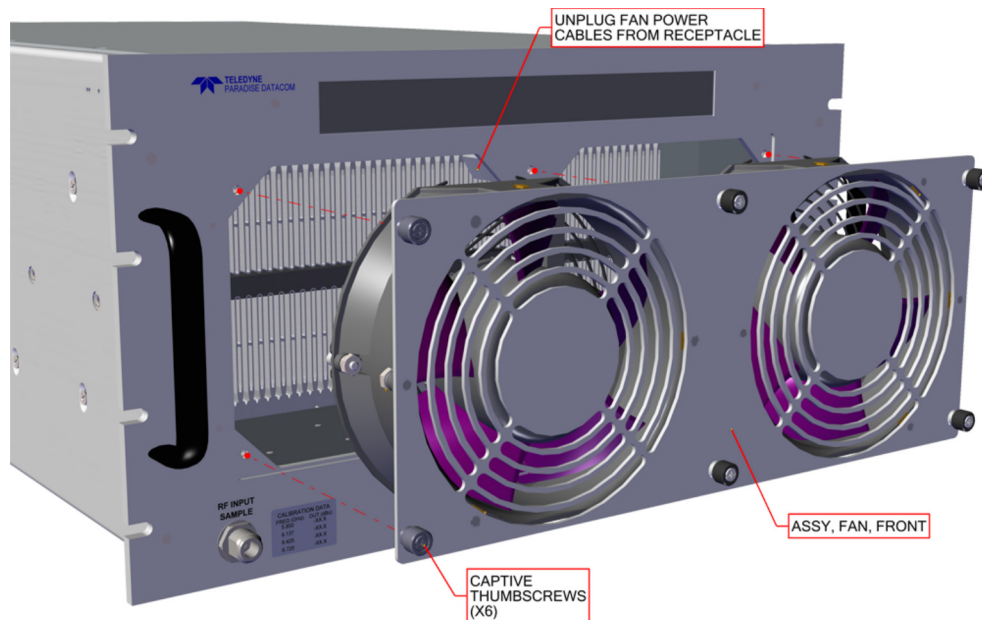

Figure 2: 6RU SSPA, Removable Front Fan Assembly
Six (6) captive thumb screws secure the fan tray to the front of the chassis. Loosen the thumb screws with a Philips screwdriver by rotating them counter-clockwise. Gently slide the fan tray assembly out of the enclosure until there is enough clearance to reach the power plug for each fan. Unplug each power connector. See Figure 2.